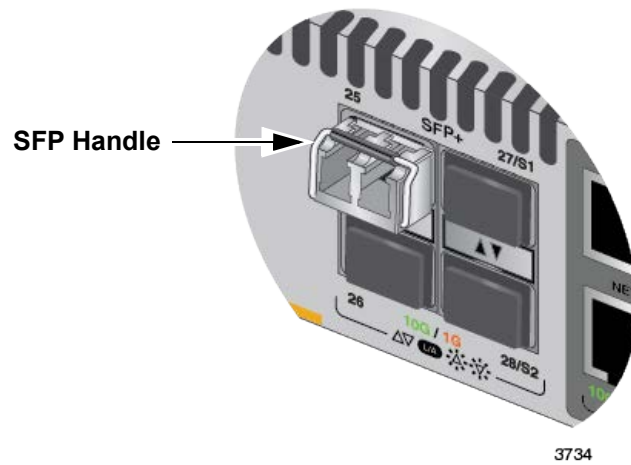

Figure 77. Positioning the SFP or SFP+ Handle in the Upright Position
6. Verify the position of the handle on the transceiver. If the transceiver is in a top slot, the handle should be in the upright position, as shown in Figure 77 on page 147. If the transceiver is in a bottom slot, the handle should be in the down position.